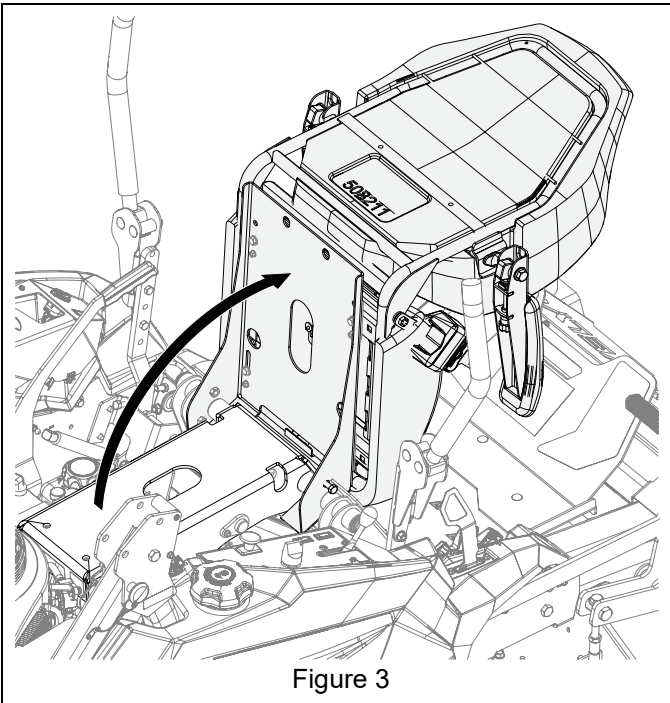

Figure 3
2. Rotate seat assembly forward until it rests against stop bolts. See Figure 3.